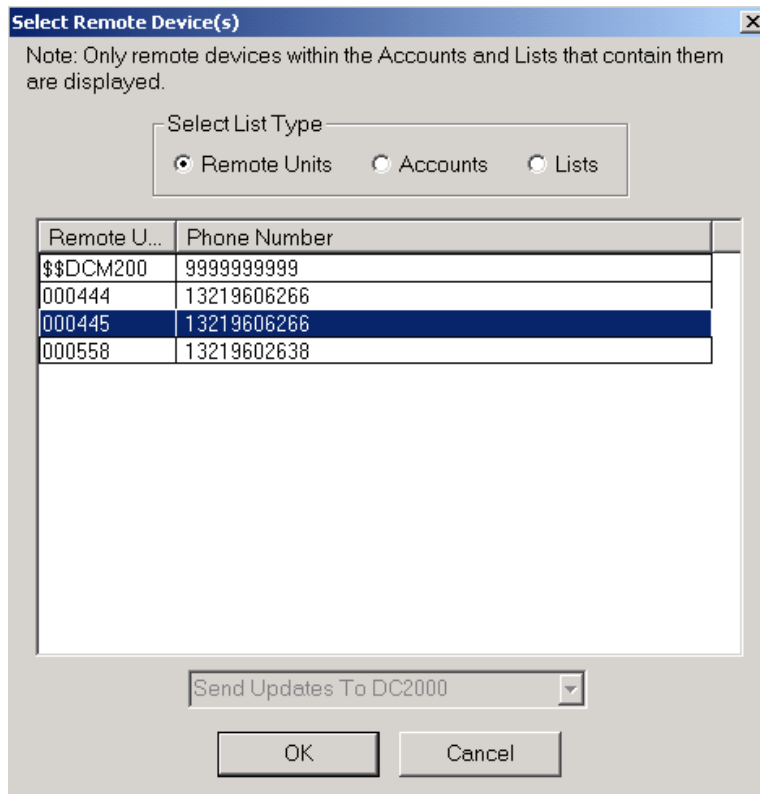

Figure 4-17
- 3) Select the *Send Firmware Update to DC-2000* button. The screen shown in Figure 4-17 will appear.